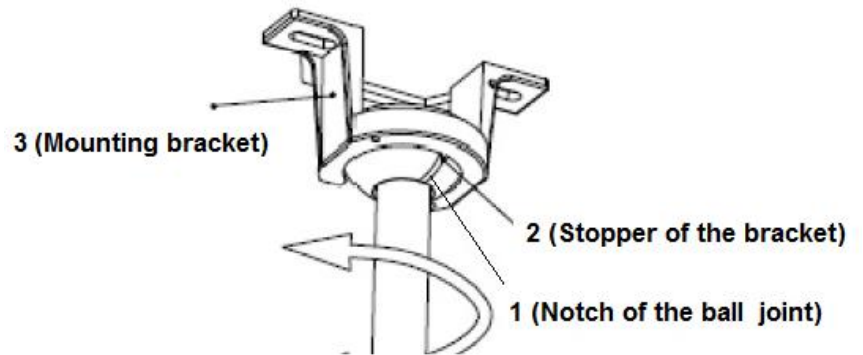

Fig. 5
- Ensure the notch of the ball joint (1) is positioned on the stopper of the mounting bracket (2) to prevent the fan from rotating when in operation. Fig. 5